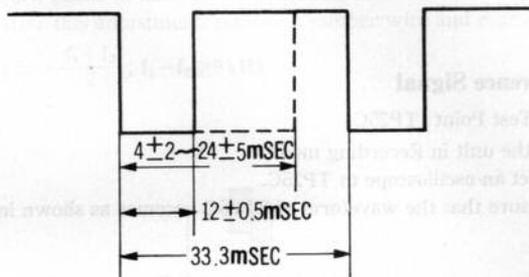

Fig. 14
4. Adjust R290 so that the delay time becomes  $12 \pm 0.5$  msec. as shown in Fig. 14.